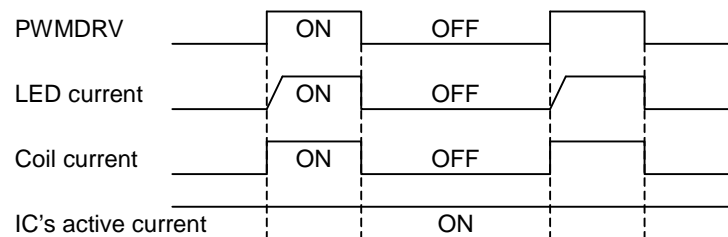

Figure 42.
1) Current driver PWM control is controlled by providing PWM signal to PWMDRV, as it is shown Figure 42.